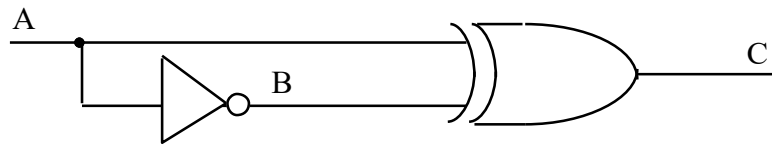
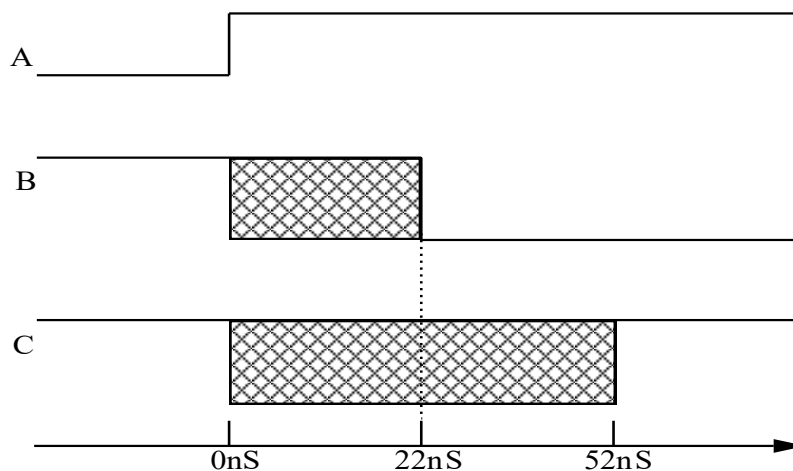

FIGURE 10
FIGURE 11
The circuit of Figure 10 should always output a logic one at C as it implements the steady-state logic equation $C = A \oplus \bar{A} = 1$. However, due to the finite delays of the gates used, it may momentarily output a logic zero (a glitch) right after the input A changes. The inverter in the circuit of Figure 10 is from a 7404 chip. The 7404 has a typical propagation delay of 10ns, and a guaranteed maximum delay of 22ns. The exclusive-or gate (7486) has a typical delay of 14ns and a maximum of 30ns. Note that neither of these gates has a guaranteed minimum delay time; therefore, the assumed minimum delay is zero. **When preparing a timing diagram always use the worst-case propagation delays, not the typical!**
A timing diagram for the circuit of Figure 10 is given in Figure 11. At time $T = 0$, the input A changes from a zero to a one. The output of the inverter (B) is unknown from time $T = 0$ until time $T = 22$ ns. The value of B probably changes somewhere around 10ns (the typical delay time), **but the output cannot be guaranteed** until $T = 22$ ns. Since B is an input to the XOR gate, its output cannot be guaranteed until 30ns (maximum propagation delay) after the value of B is known. The cross-hatched areas in the timing diagram are the times when the signal value is unknown. The XOR output, C, is unknown for 52 ns after the input A changes. During those 52 ns, the output may be at logic zero or logic one. If it becomes a logic zero at any instance during these 52ns, then the circuit is said to produce a glitch.